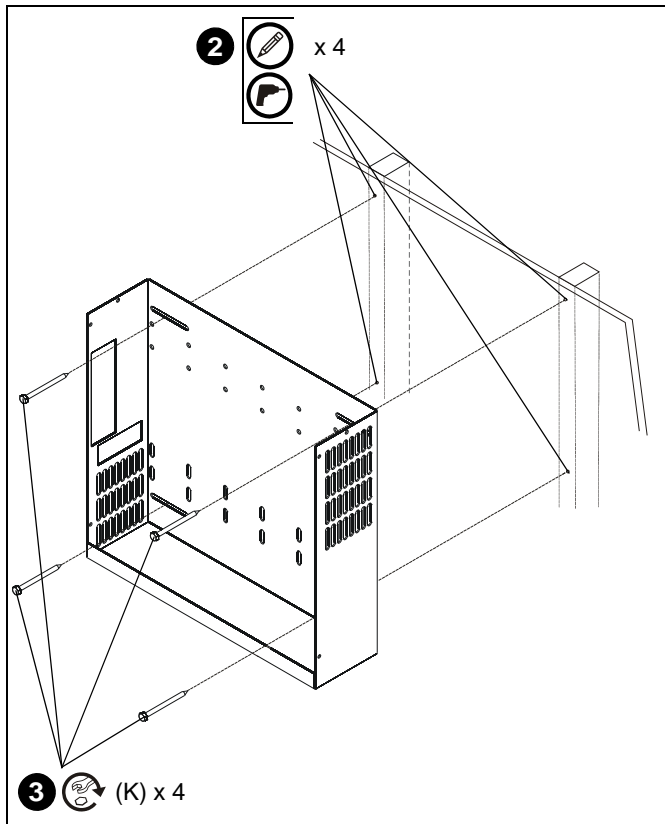

Figure 1
2. Using CPU holder (A) as a template, mark and drill four 1/8" holes in center of wood studs. (See Figure 1)
3. Install four 1/4 x 2 1/2" hex head lag screws (K) through CPU holder (A) and into drilled holes. (See Figure 1)